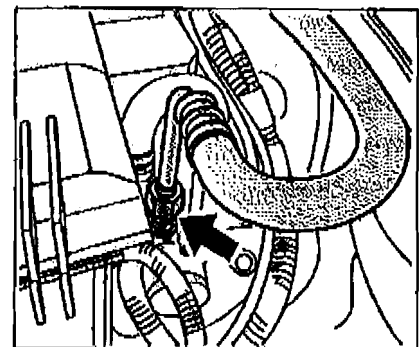

Figure 8
- 5.3 Place several cloths under the threaded joint between the fuel line and fuel distributor pipe supply line ⇒ *Figure 8 -arrow-* to absorb the fuel that emerges when you open the fuel line.
- 5.4 Counter at the supply line on the fuel distributor pipe and open the union nut on the fuel line ⇒ *Figure 8 -arrow-*.
5.7 Screw new fuel line, Part No. 955.110.235.01 (with different marking and pre-fitted spacer ring), onto the supply line on the fuel distributor pipe ⇒ *Figure 8* -arrow- and tighten it. Counter at the supply line on the fuel distributor pipe when tightening the union nut. **Tightening torque 22 Nm (16 ftlb.)**